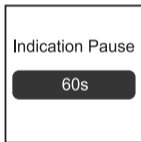

Fig.4-6
4.1.3 Tap "**Indication Pause**". The screen will display as in Fig.4-6, tap the figure to set the pause time between "60s", "120s" and "180s".